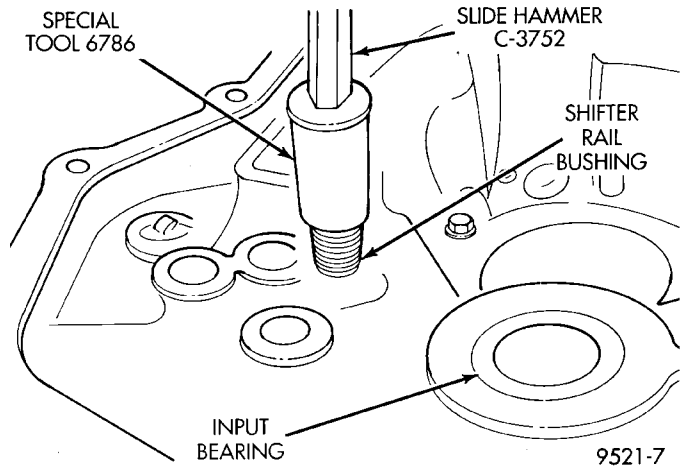

Fig. 133 Shift Rail Bushing Removal
- (1) Thread tool #6786 into shift rail bushing.
- (2) Install slide hammer #3752 onto tool.
- (3) Remove bushing using slide hammer and tool assembly (Fig. 133).